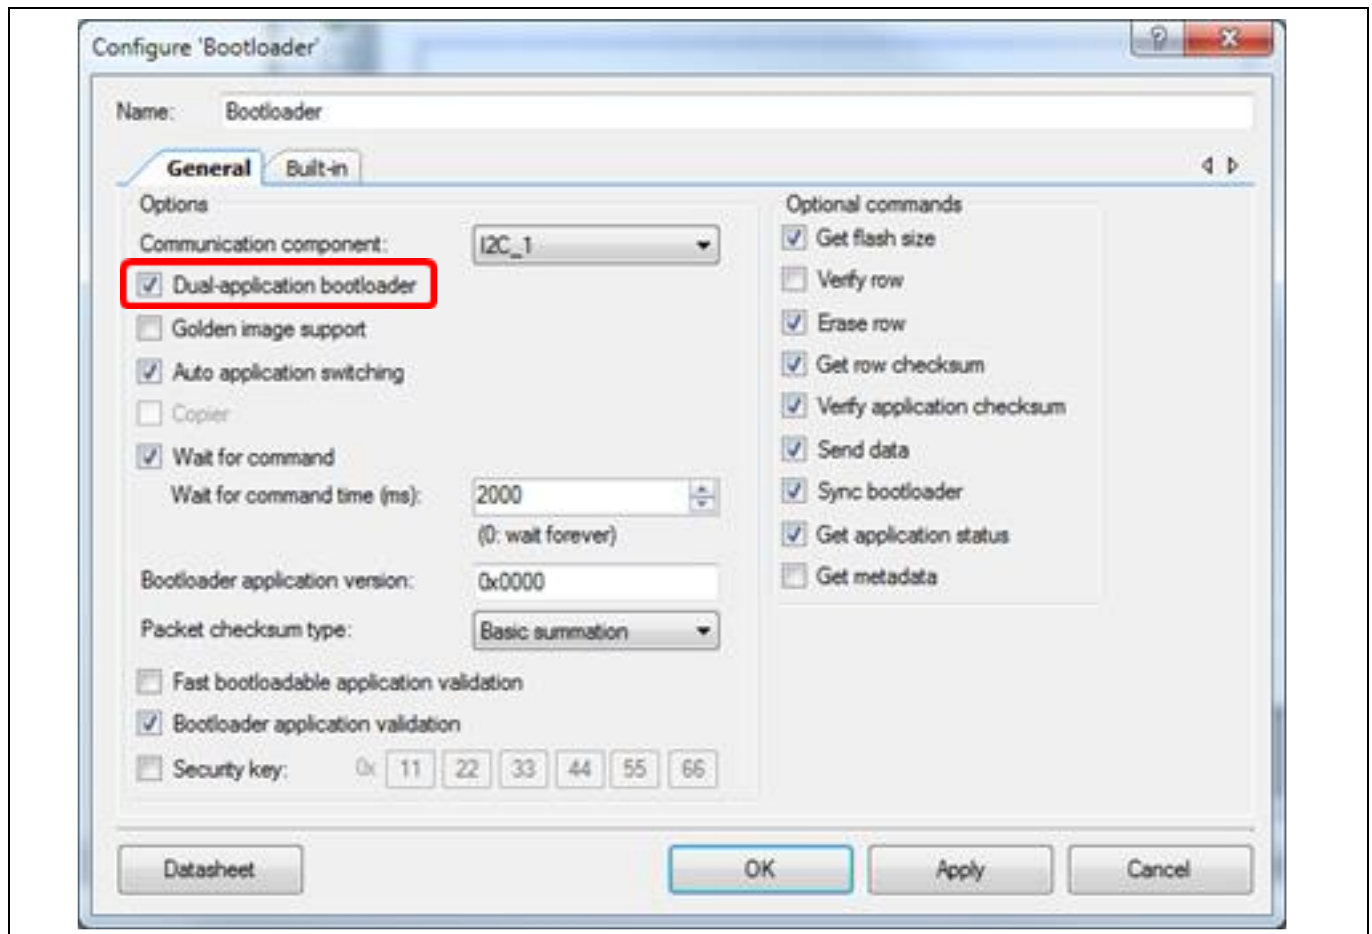

Figure 16 Bootloader component configuration
1. In the Bootloader Component configuration dialog, check the box Dual-application bootloader, as Figure 16 shows. In PSoC™ Creator 3.2 and earlier, this option is named **Multi-Application bootloader**.